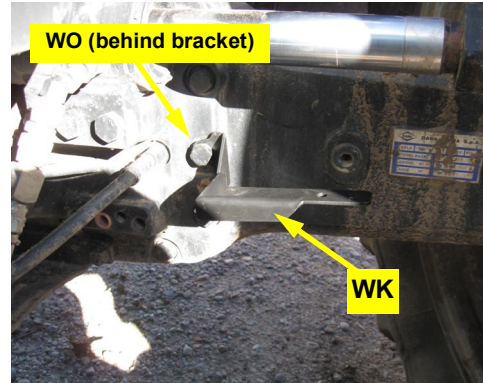

Figure 2b: Installed bracket with spacing washer
- b. Using the removed differential bolt, attach bracket **WK** to the axle. Place washer **WO** between the differential housing and the bracket **WK**. Align the bracket parallel to the axle (Figure 2b).